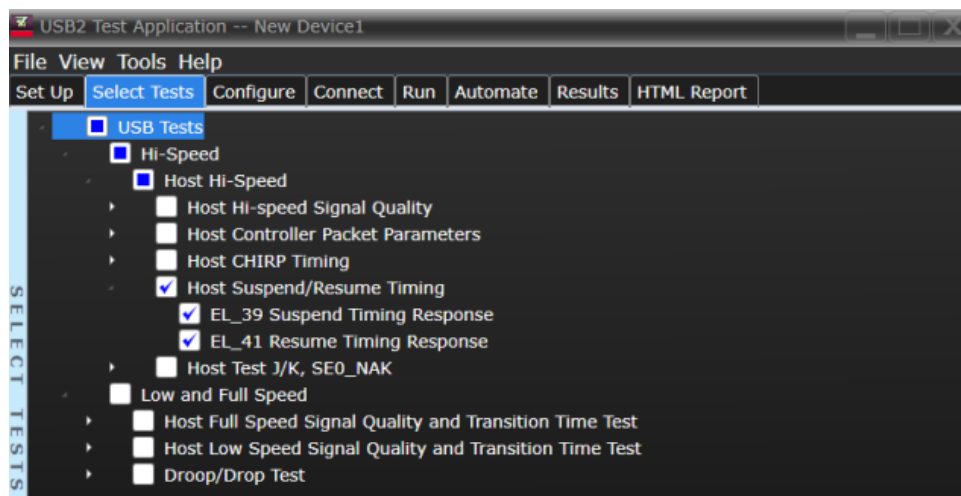

Figure 49. Host Suspend/Resume Timing test
1. Select the test items in the USB automated test software on the oscilloscope, as shown in Figure 49.